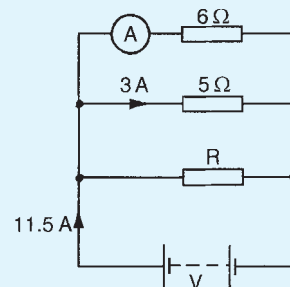

Figure 5.29
- For the circuit shown in Fig. 5.29 determine (a) the reading on the ammeter, and (b) the value of resistor R [2.5 A , 2.5Ω]